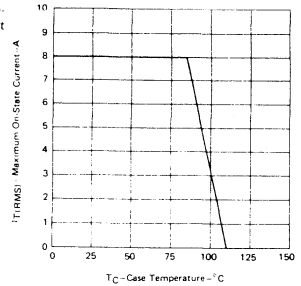

FIGURE 2
2. This value applies for 50 Hz full-sine-wave operation with resistive load. Above 70°C derate linearly to 110°C case temperature at rate of 200 mA/°C. Figure 2.